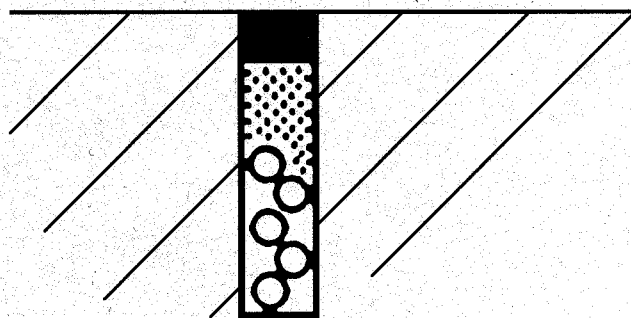

Fig. 4
- 6) Secure the cable at the bottom of the channel and seal the loop, making sure that no parts of the cable remain exposed (Fig. 4).